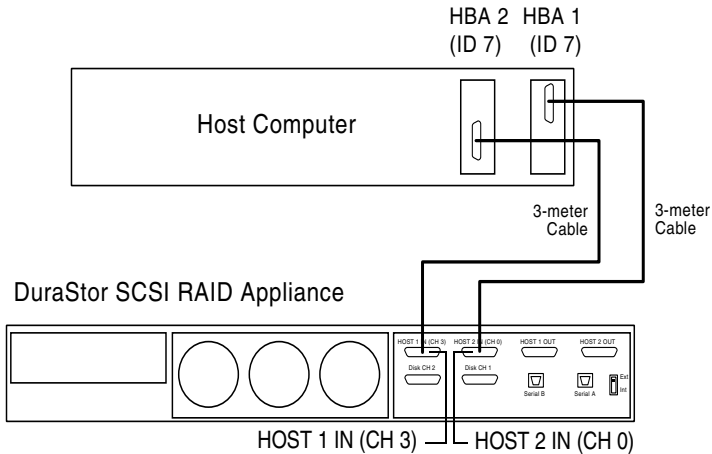

Figure 3-17 Stand-alone Dual-port Cabling Diagram
- 1 Connect the SCSI data cables as shown in Figure 3-17.